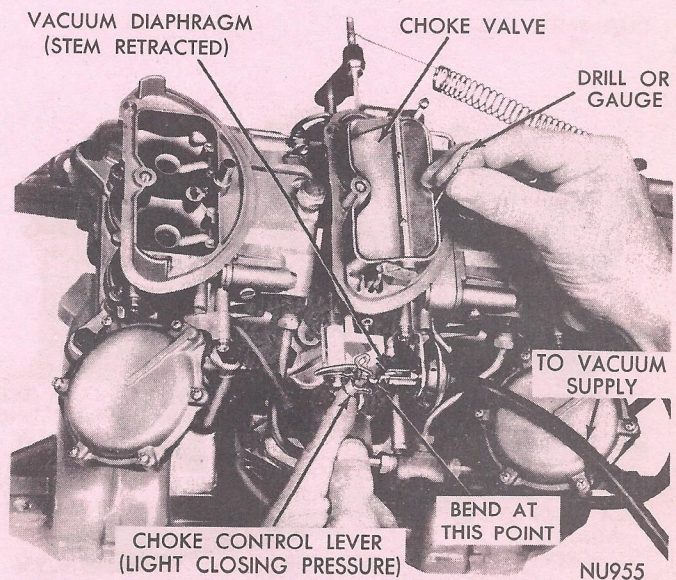

Fig. 29—Vacuum Kick Adjustment
(1) If the adjustment is to be made with the engine running, position the fast idle tang (Fig. 29) (Cam position adjustment) to allow choke closure to kick position. If auxiliary vacuum source is to be used, open throttle valves, (engine not running) and move choke to closed position. Release throttle first, then release choke.
(2) When using an auxiliary vacuum source, disconnect the vacuum hose from the carburetor and connect it to the hose from the vacuum supply with a small length of tube to act as a fitting. Removal of the hose from the diaphragm may require forces which damage the system. Apply a vacuum of 10 or more.
(3) Insert the specified drill (see specifications) between the choke valve and the wall of the air horn (Fig. 29). Apply sufficient closing pressure on the lever to which the choke rod attaches to provide a minimum choke valve opening without distortion of the diaphragm link. Note that the cylindrical stem of the diaphragm will extend as an internal spring is compressed. This spring must be fully compressed for proper measurement of the vacuum kick adjustment.